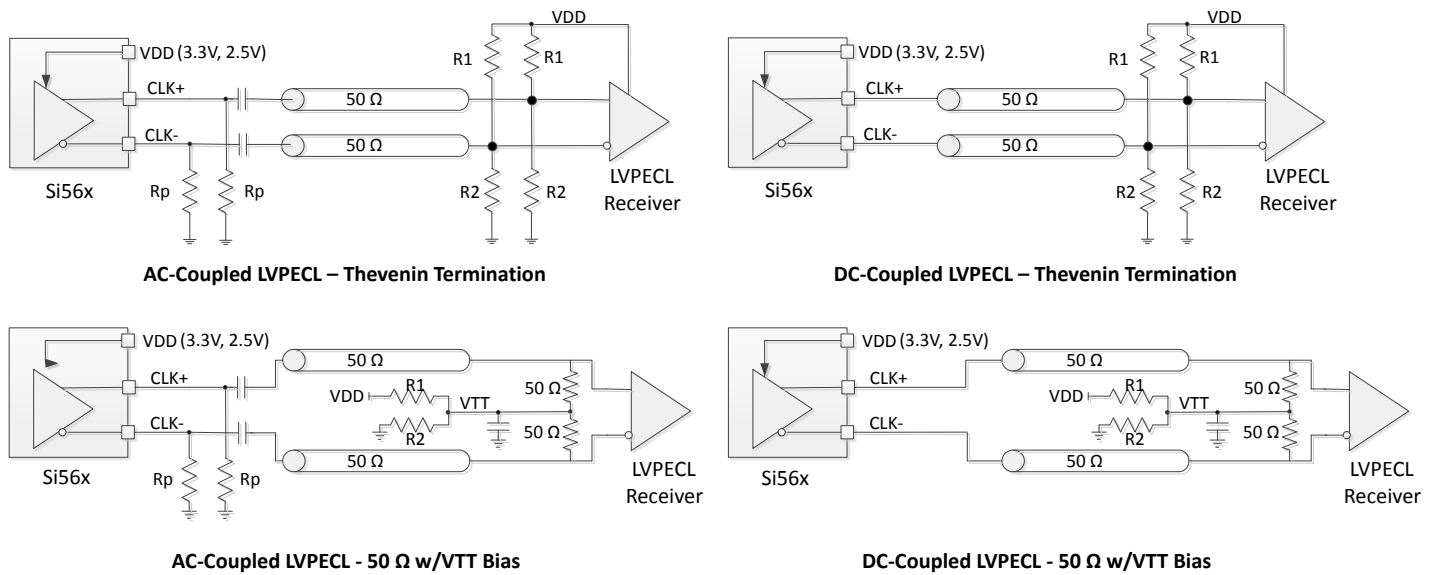

Figure 4.1. LVPECL Output Terminations
3. R_{term} = 50 Ω to V_{DD} - 2.0 V (see Figure 4.1).